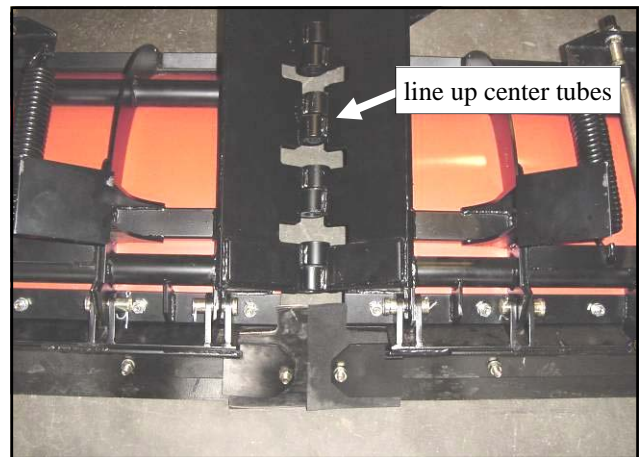

Fig. 1.2 (view of moldboard halves)
1.2 Per fig. 1.2, slide one of the large moldboard assemblies into the opposite mating half so all the center tubing sections and lower cutting edges line up as shown.